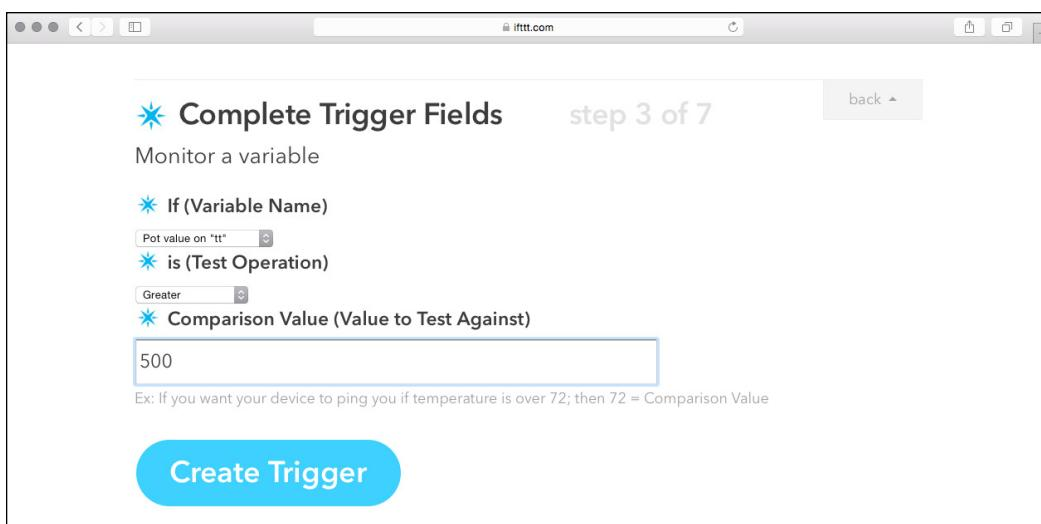

Figure 8.13: Creating the trigger for the recipe
*Figure 8.13 shows the last part of the configuration page for the Particle channel:*